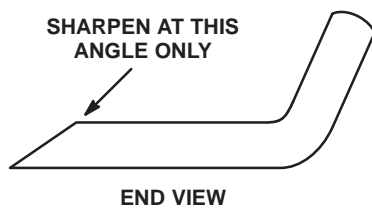

Figure 28
- Examine the cutting edges of all blades. Sharpen the cutting edges if they are dull or nicked. Sharpen only the top side of the cutting edge and maintain the original cutting angle to ensure sharpness (Fig. 28). The blade will remain balanced if the same amount of metal is removed from both cutting edges.